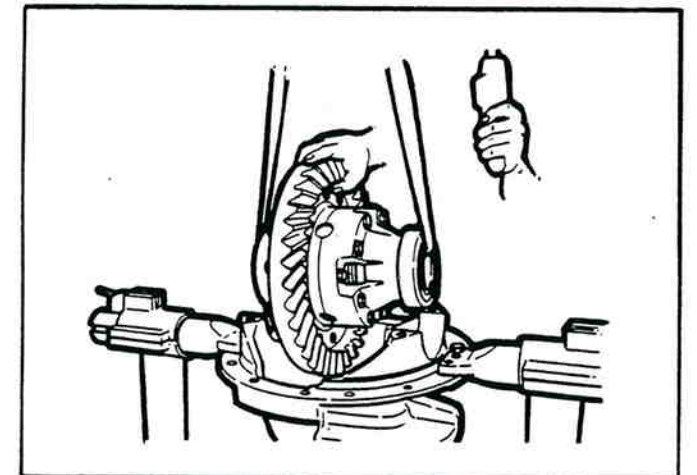

Figure 2-16. Lifting Differential And Ring Gear From Carrier.
8. Safely lift the main differential and ring gear assembly from the carrier. Put the assembly on a work bench (Figure 2-16).